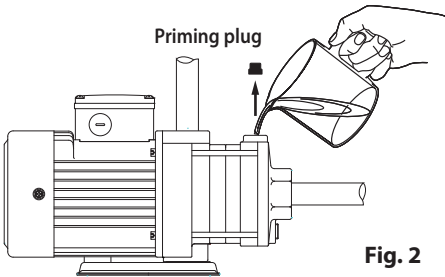

Fig. 2
- 3.1.2.2 Remove the priming plug, fig. 2.